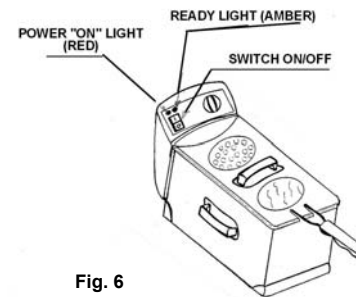

Fig. 6
- The temperature indicator light will come on when the temperature is set and the deep fryer is "on" showing that the heating element is in operation. This light goes off when the set temperature is reached. (Fig. 6) The temperature light may go on and off several times during frying. This indicates that the temperature is being thermostatically maintained.